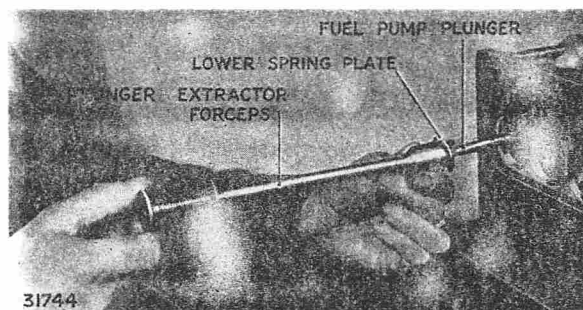

FIG. 41. REMOVING OR REPLACING PLUNGER
8. Fit lower spring plates on to the plungers and insert the plungers into the barrels through the base plug holes, using C.A.V. Tool No. ET.569 (Fig. 41).